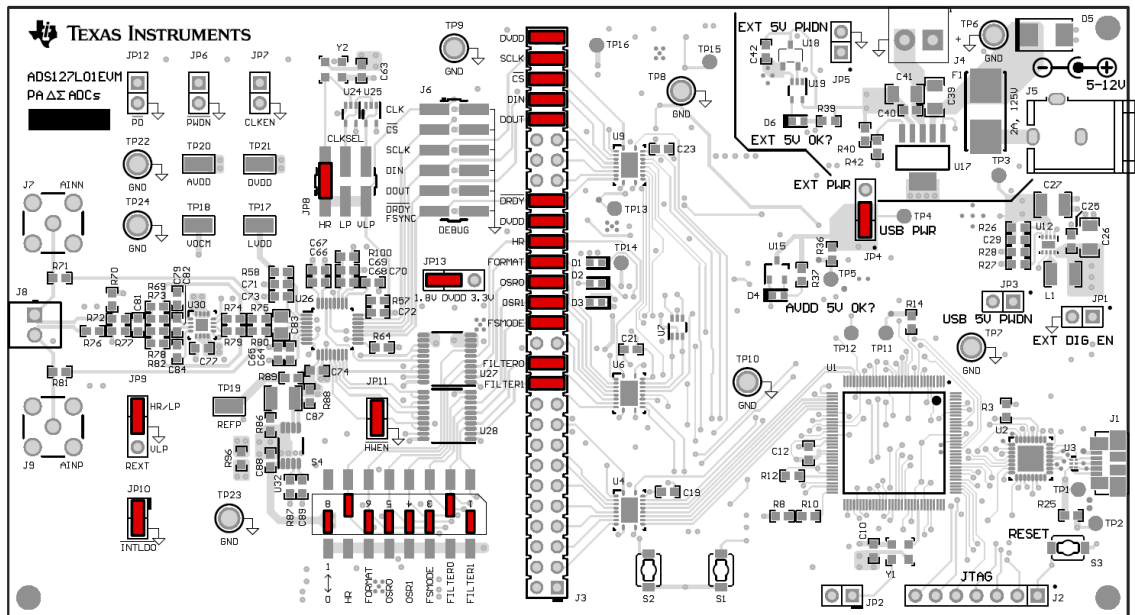

Figure 2. ADS127L01EVM Default Jumper and Switch Configuration
The EVM should come configured with the settings listed in Table 2 and illustrated in Figure 2.
3. Ensure all jumpers and switches are configured in the default configuration per Table 2 and Figure 2.